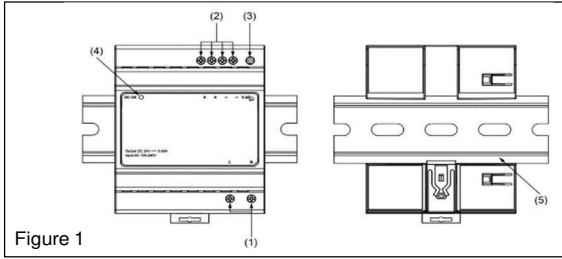

Figure 1
## 2. Device description (Fig. 1)
### 5.1. Input connection (Fig. 1 (1), Fig. 5)
Use L and N connections of input terminal connector (see Fig. 1 (1)) to establish the 100-240 VAC connection. The unit is protected with internal fuse (not replaceable) at L pin and it has been tested and approved on 20A (UL) and 16A (IEC) branch circuits without additional protection device.
### 5.2. Output connection (Fig. 1 (2))
Use the "+" and "-" screw connections to establish the 24 VDC connection. The output provides 24 VDC. The green LED DC OK displays correct function of the output (Fig. 1 (3)). The device has a short circuit and overload protection and an over voltage protection limited to < 36 VDC.